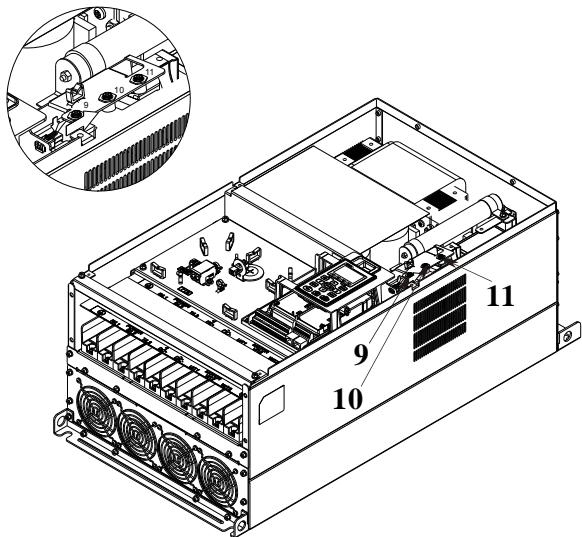
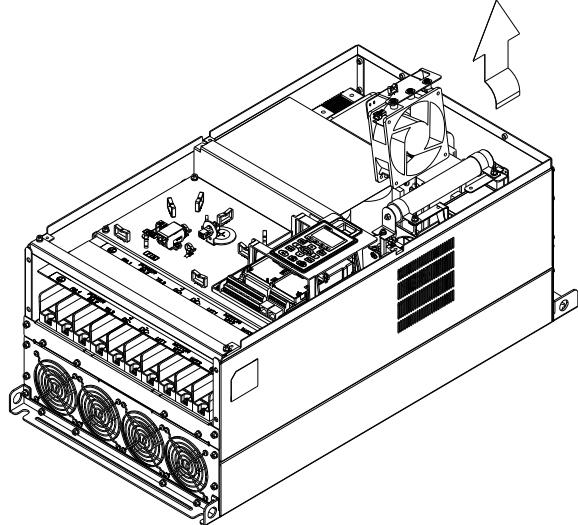

Figure3
Figure 4
(1) Loosen the screws 1~4 (as shown in figure below) and remove the cover. Screw torque: 14~16kg-cm (12.2~13.9lb-in).
(2) Loosen the screws 5~8 (as shown in figure below) and remove the cover. Screw torque: 24~26kg-cm (20.8~22.6lb-in).
- (3) As shown in the partially enlarged image, disconnect the fan's power.
(4) Loosen the screws 9~11(figure 3) and remove the fan (figure 4). Screw torque: 24~26kg·cm (20.8~22.6lb-in)